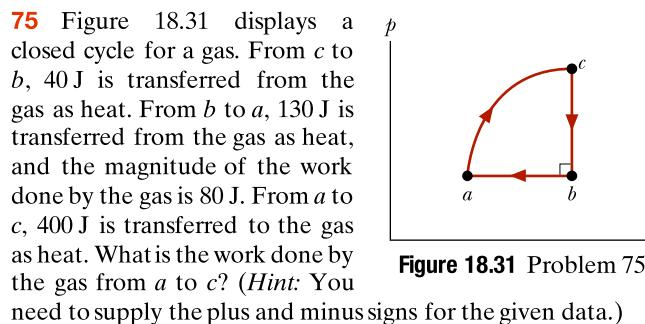

Figure 18.30 Problem 74.
- 74** In a series of experiments, block B is to be placed in a thermally insulated container with block A , which has the same mass as block B . In each experiment, block B is initially at a certain temperature T_B , but temperature T_A of block A is changed from experiment to experiment. Let T_f represent the final temperature of the two blocks when they reach thermal equilibrium in any of the experiments. Figure 18.30 gives temperature T_f versus the initial temperature T_A for a range of possible values of T_A , from $T_{A1} = 0 \text{ K}$ to $T_{A2} = 500 \text{ K}$. The vertical axis scale is set by $T_{fs} = 400 \text{ K}$. What are (a) temperature T_B and (b) the ratio c_B/c_A of the specific heats of the blocks?